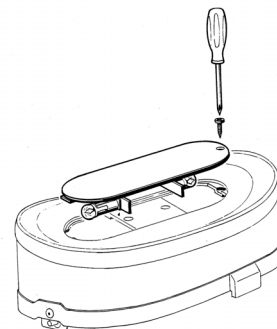

figure 20
- 3 - Replacement of lighted top cover bulbs: remove the fixing screw located in the upper part of the cover, lift the socket and replace the bulbs. Reassembly the support and the fixing screw. (see figure 20)